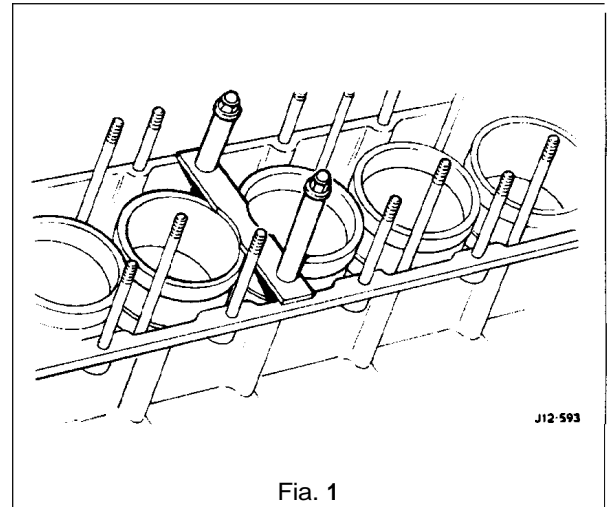

Fig. 1
- Remove the cylinder sleeve retainers Special Tool JD 41, (Fig. 1).